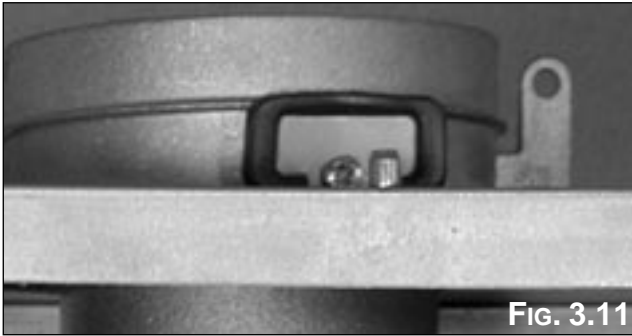

FIG. 3.11
1. Connect the combustion analyser to the analysis point (Fig. 3.11) after removing the cover plate.
3. When the check is over, replace the cap on screw "2" (Fig. 3.11).